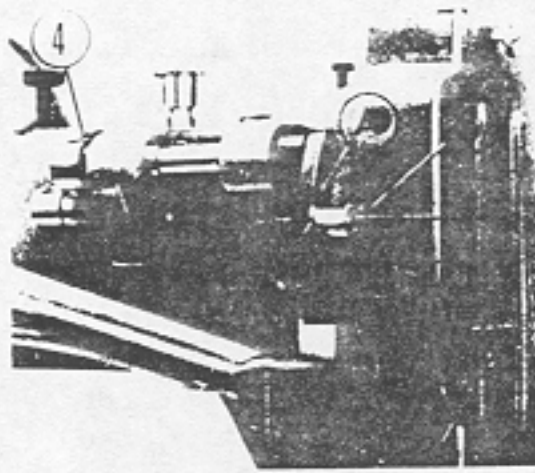

Fig. 12
The lifting amount is adjusted by changing the position of the screw hole of the main shaft feed adjusting screws (Fig. 12 (1)).
For adjusting, remove the nut (Fig. 12 (2)) behind the feed adjusting screw (1) by turning it with a screw driver to the left. Then determine the correct position of the screw hole and set it with the vibrating presser bar connecting link (Fig. 12 (3)). When all adjustments are completed, check to see that all screws and nuts are securely tightened.
screw of the vibrating presser bar rock shaft crank (Fig. 12 ④), rotate the hand wheel slowly toward the operator and when the vibrating presser foot vibrates and the lower surface of the presser foot and the vibrating presser foot comes on the same level with the upper surface of the throat plate, tighten the set screw.